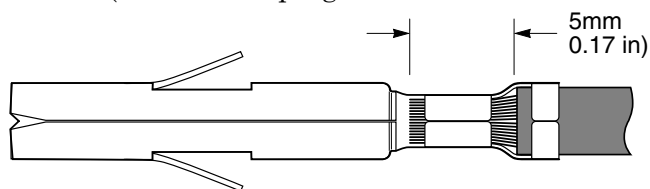

Figure 2-5B. View of Crimped Terminal Pin
- Crimp the terminal pins to the wires according to standard procedures. Figure 2-5B shows a crimped terminal pin. The terminal pins can accept a wire size up to 1.2 mm (0.05 in). If possible, use a crimping tool such as Molex(Hand Crimping Tool 11-01-0084.